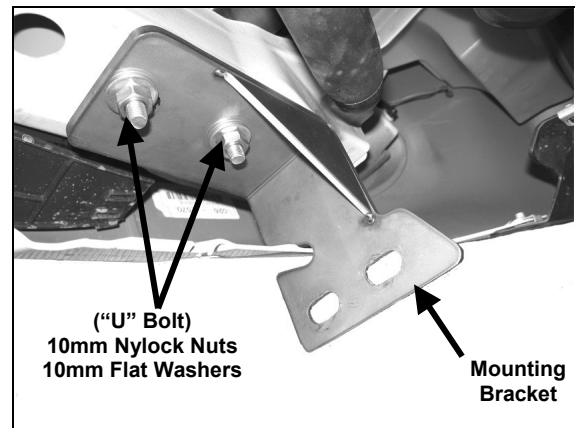

Figure 4
- Position passenger side Mounting Bracket onto cross member and through already installed "U" Bolt. Secure Mounting Bracket to "U" Bolt using (2) 10mm Nylock Nuts and (2) 10mm Flat Washers (**Figure 4**). Do not tighten at this time.